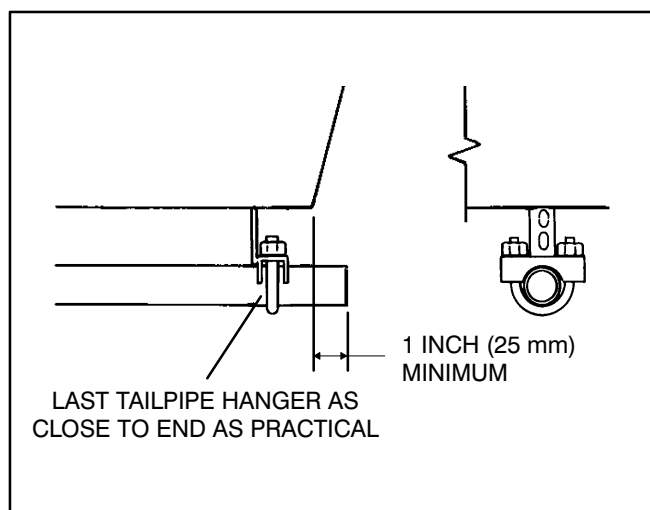

FIGURE 8. TERMINATING THE EXHAUST TAILPIPE
9. Do not terminate the tailpipe underneath the vehicle. Extend it a minimum of 1 inch (25 mm) beyond the perimeter of the vehicle (Figure 8). Support the end of the tailpipe such that it cannot be pushed in and up under the skirt of the vehicle.